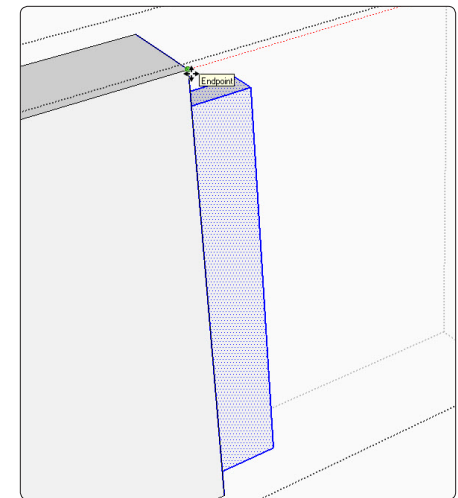

Figure 11. The tenon copy moved into place. Once its position is fixed with the *Move/Copy Tool*, it becomes part of the skirt component.
Step 7 Select the *Move/Copy Tool*, grab the corner of the tenon copy, and connect it to the corresponding corner of the skirt, as shown in Figure 11. Click the mouse to fix the location of the copied tenon. You may wonder what happens